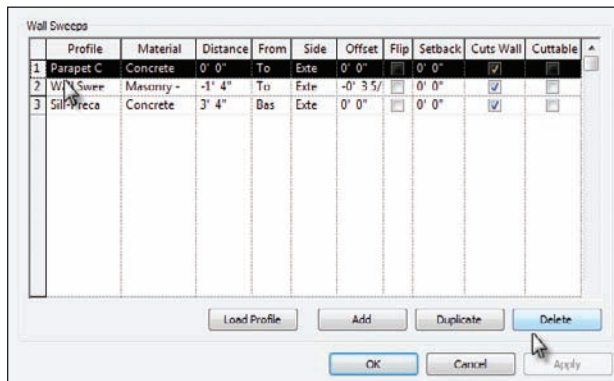

FIGURE 7.22 Deleting the Parapet Cap sweep
9. In the Wall Sweeps dialog, you will see three sweeps. The top sweep is the parapet cap. Select sweep 1 (Parapet Cap), and click the Delete button, as shown in Figure 7.22.